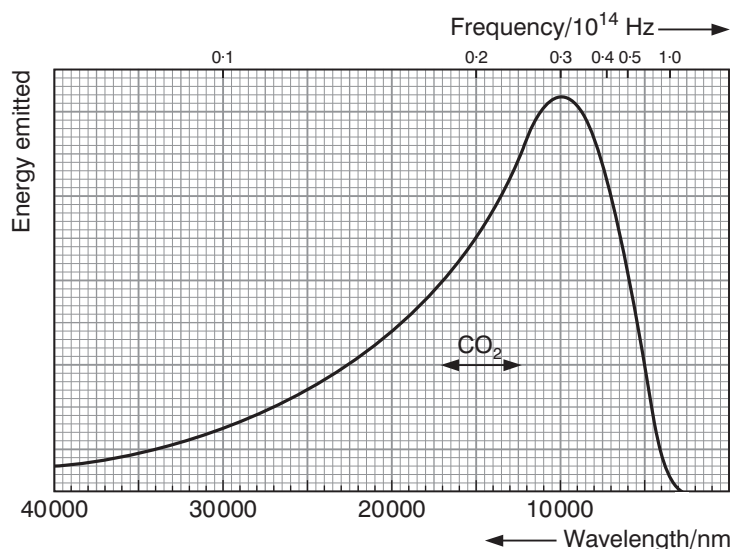

Figure 1 Infrared radiation emitted by the Earth
The spectrum in Figure 1 shows the infrared radiation emitted by the Earth. It shows the energy emitted at each wavelength (and frequency). Use the information in the table to answer the following questions.
- The range of wavelengths absorbed by CO₂ in the atmosphere is shown in Figure 1. Mark on the Earth's radiation spectrum the absorption ranges (if any) of other gases that occur naturally in the atmosphere in considerable quantities: N₂, O₂, H₂O. (It is easier to use the wavelength ranges rather than the frequency ranges.)